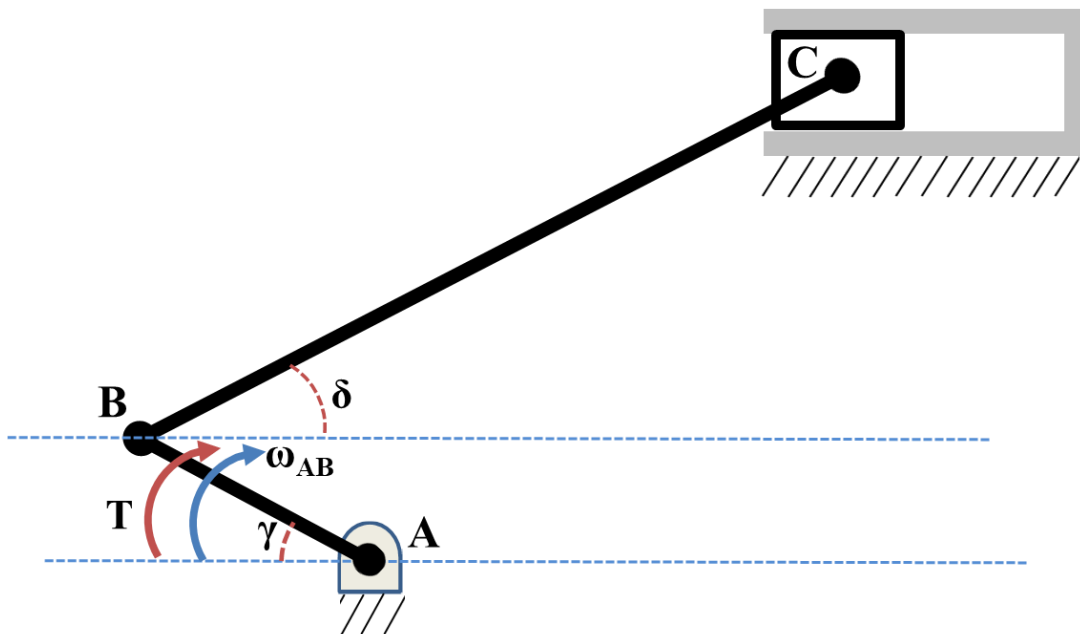

FIGURE Q1
1. Fig.Q1 shows a crankshaft-piston mechanism which is driven by an electric motor inputting a torque T at point A. At the instant shown $\gamma=15^\circ$ and $\delta=45^\circ$ and link AB is rotating clockwise at constant angular velocity $\omega_{AB}=33\text{rad/s}$. The piston has mass 0.3kg and can be modelled as a particle. Gravitational acceleration is $g=9.81\text{m/sec}^2$. Link AB has mass $m_{AB}=0.1\text{kg}$ while link BC has negligible mass. The friction coefficient between the piston and the chamber walls $\mu=0.1$. Lengths $AB=40\text{mm}$ and $BC=150\text{mm}$.